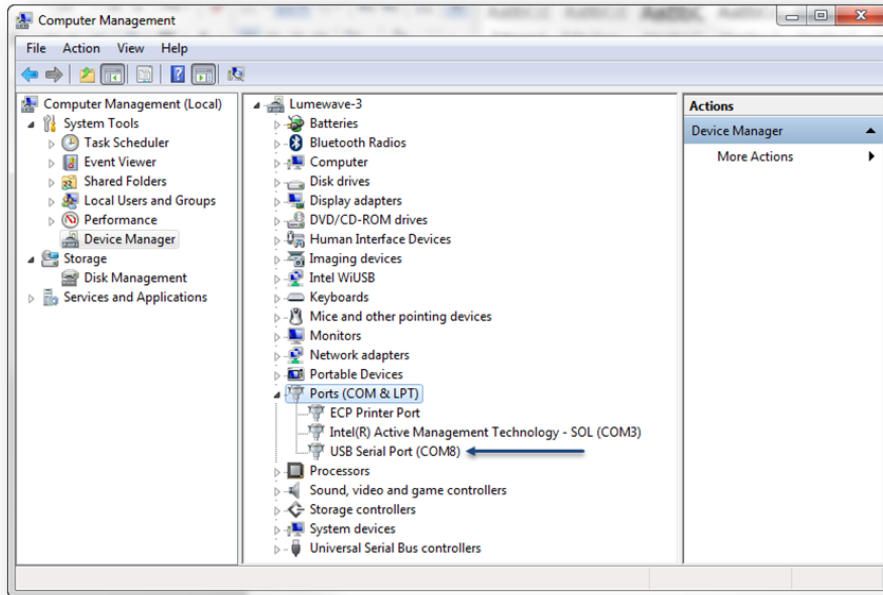

Figure 21. Ports (COM & LPT)
9. Write down the COM Port number and the type of USB module (Gateway, Radio, or Programmer). This is shown in Figure 21 next to the blue arrow.